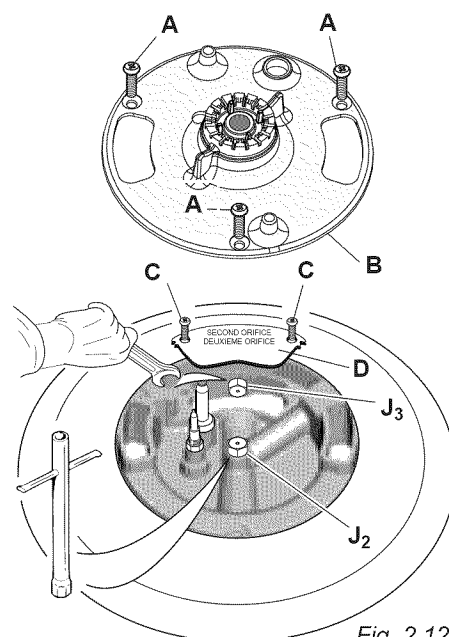

Fig. 2.12
(*) inner crown ("J₂" in figure 2.12)
(**) outer crown ("J₃" in figure 2.12)
- Dual burner only (fig. 2.12): Unscrew the no.3 fixing screws "A" and remove the inner crown flame spreader "B"; then unscrew the no.2 fixing screws "C" and remove the cover plate "D".
- Dual burner only (fig. 2.12): Refit the cover plate "D" and screw the no.2 fixing screws "C"; then refit the inner crown flame spreader "B" and screw the no.3 fixing screws "A".